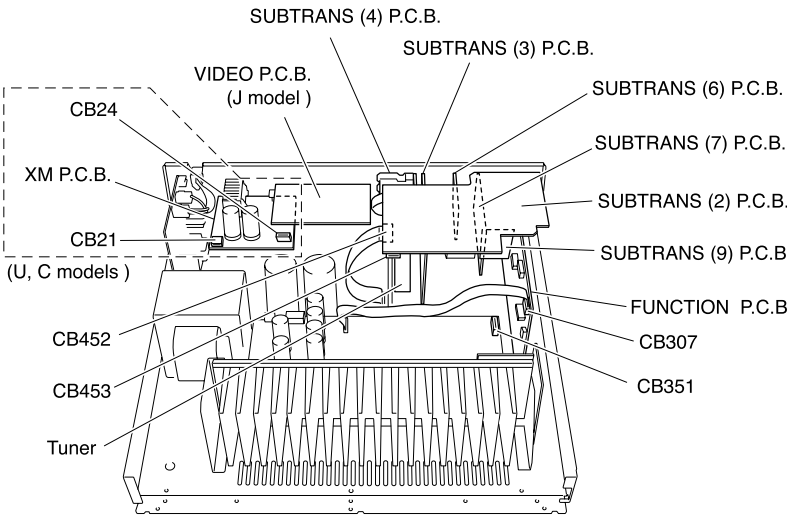

Fig. 4
4. Removal of FUNCTION, SUBTRANS (2), (3), (6), (7), (9), (10), CONVERSION (HTR-5850), XM (U, C models) P.C.B.s and Tuner
- a. Remove CB21, CB24 (U, C models), CB307, CB351, CB452, CB453 and CB706 (HTR-5850). (Fig. 4)
- c. Remove FUNCTION, SUBTRANS (2), (3), (4) (RX-V457/HTR-5840), (6), (7), (9), (10) (HTR-5850), CONVERSION (HTR-5850), XM (U, C models) P.C.B.s and Tuner. (Fig. 4)